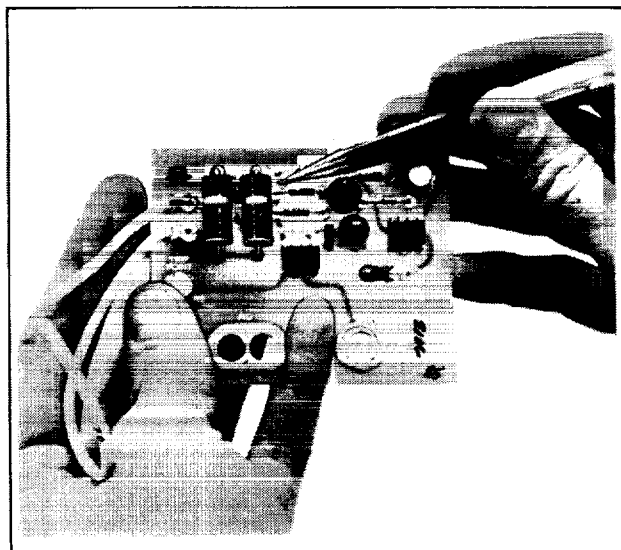

Figure 1. Overvoltage Shutdown Board
2. Clip R-2 from overvoltage shutdown board if installing on generator set with 24-Volt cranking. See Figure 1.